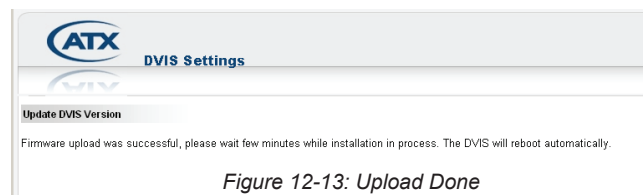

Figure 12-13: Upload Done
4. When file upload is complete the DigiVu will present the 'Upload Done' page, as shown in Figure 12-13.